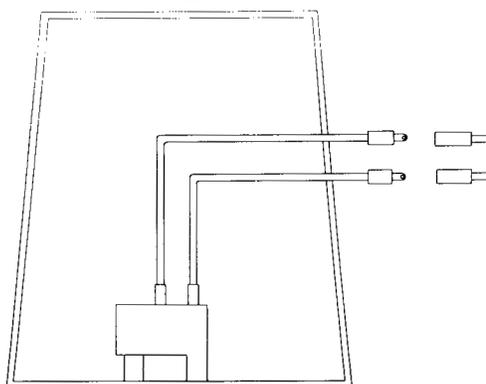

Figure 1
6. Remove front cover from valve by disconnecting valve switch wires from PUSH switch jumper wires (see Figure 1).